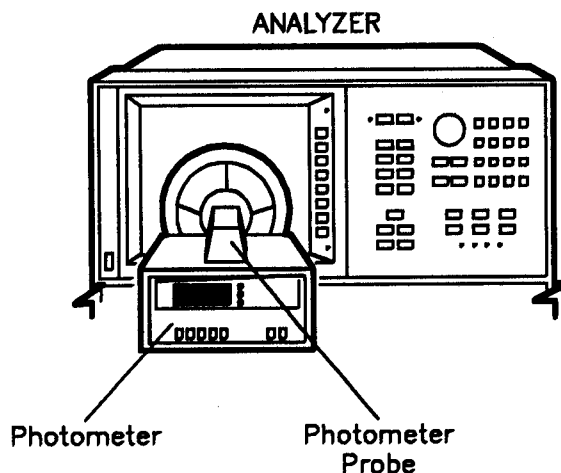

Figure 5-3. Maximum Intensity Adjustment Set-up
8. Center the photometer on the analyzer CRT as shown in Figure 5-3. Adjust the analyzer front panel knob to the maximum (clockwise) position. If the photometer registers greater than 150 NITs *(90), turn the front panel knob until a reading of no more than 150 NITs (90) registers on the photometer. If the photometer registers a reading of less than 150 NITs (90) and greater than 100 (60) NITs, proceed to the next step. If the photometer registers a reading of less than 100 NITs (60), the display is faulty.